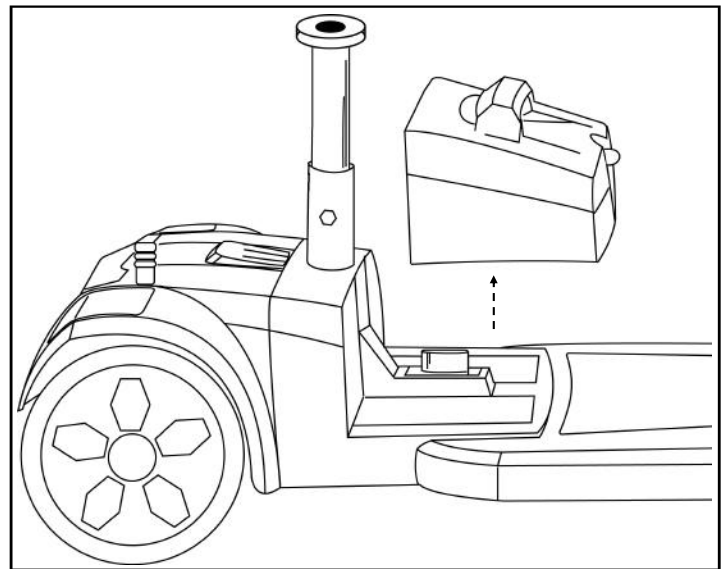

Figure 16. Removing the Battery Pack
4. Lift the battery pack off the scooter. See figure 16.